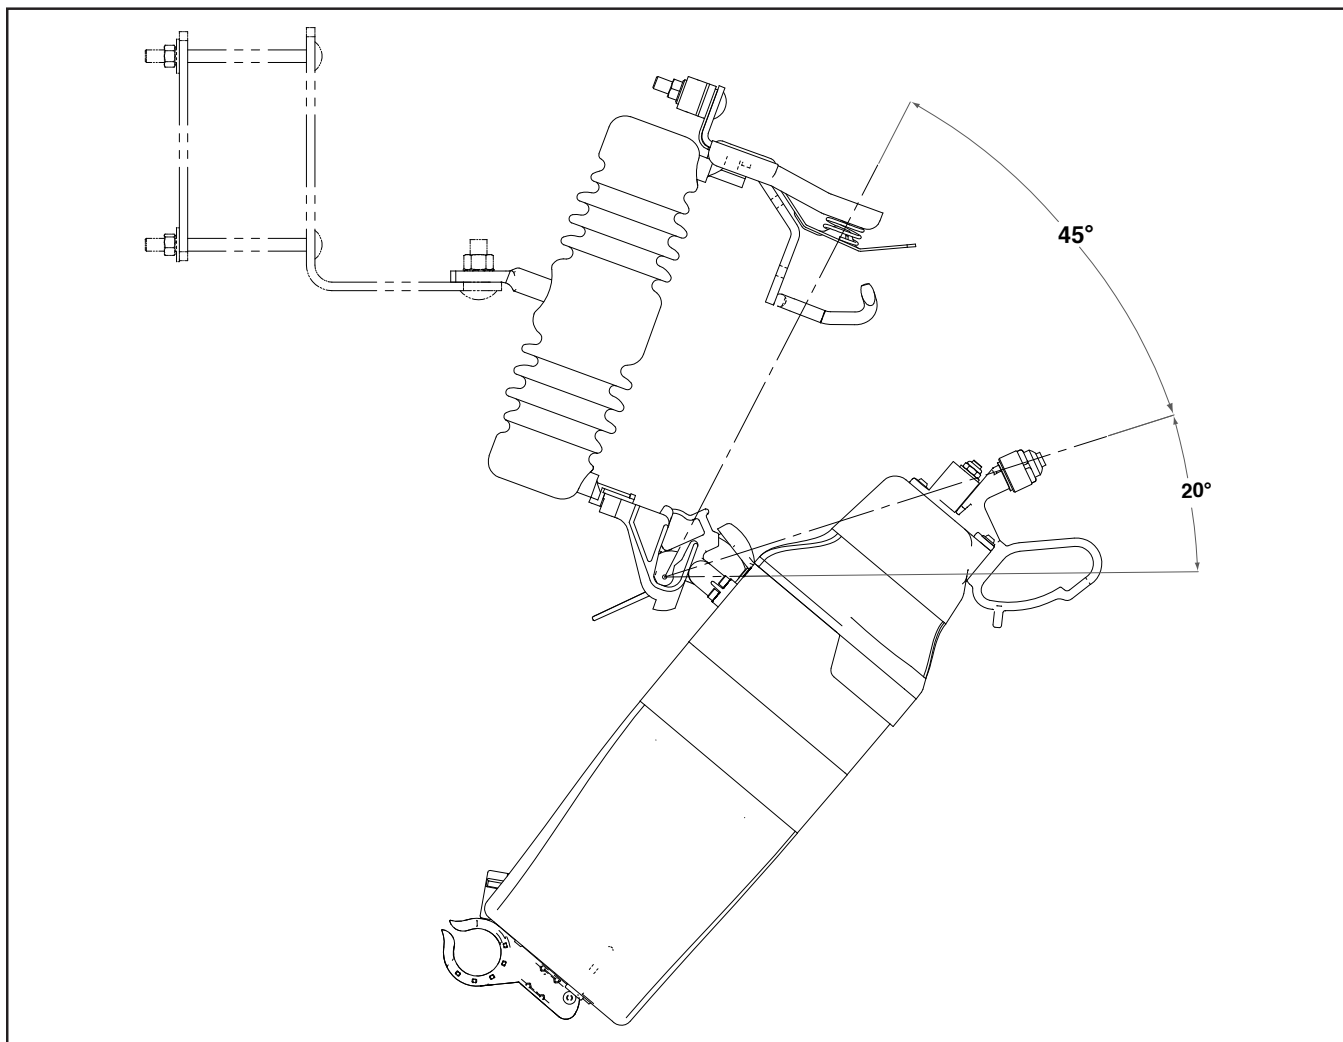

Figure 9. Swinging TripSaver Dropout Recloser to within 45° of the fully closed position before final closing.
STEP 5. Insert the straight prong of an S&C Talon Handling Tool or a distribution prong into the pull-ring. Swing TripSaver Dropout Recloser to within approximately 45° of the fully closed position as shown in Figure 9. Then drive TripSaver Dropout Recloser to the closed position using a vigorous thrust while firmly gripping the hookstick. Carefully disengage the prong from the pull-ring, taking care to avoid pulling open TripSaver Dropout Recloser.